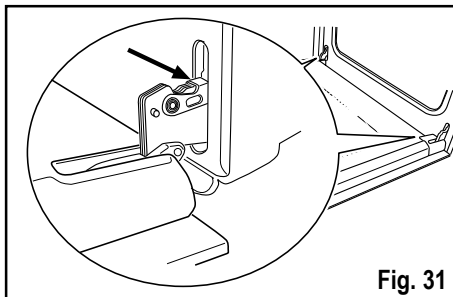

Fig. 31
1. open the oven door completely and locate the two hinges which link the door to the oven (Fig. 31).